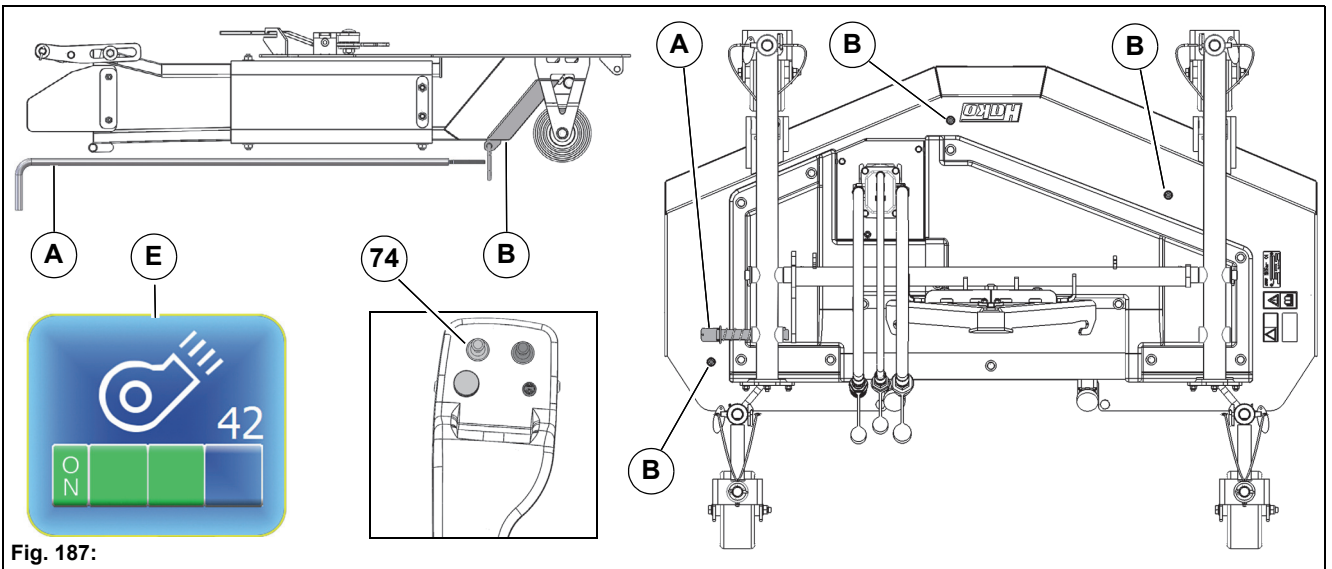

Fig. 187:
3. Use the lance **Fig. 187-A** to open the flap **Fig. 187-B** of the suction nozzle and remove the coarse dirt. Lock the flap again with the lance.
4. Switch the vehicle on and switch on the suction fan **Fig. 187-E** in the working menu of the multifunction display and let it run for one to two minutes.
6. Plug a water hose onto the hose coupling **Fig. 187-B** and let the mower run for one to two minutes.